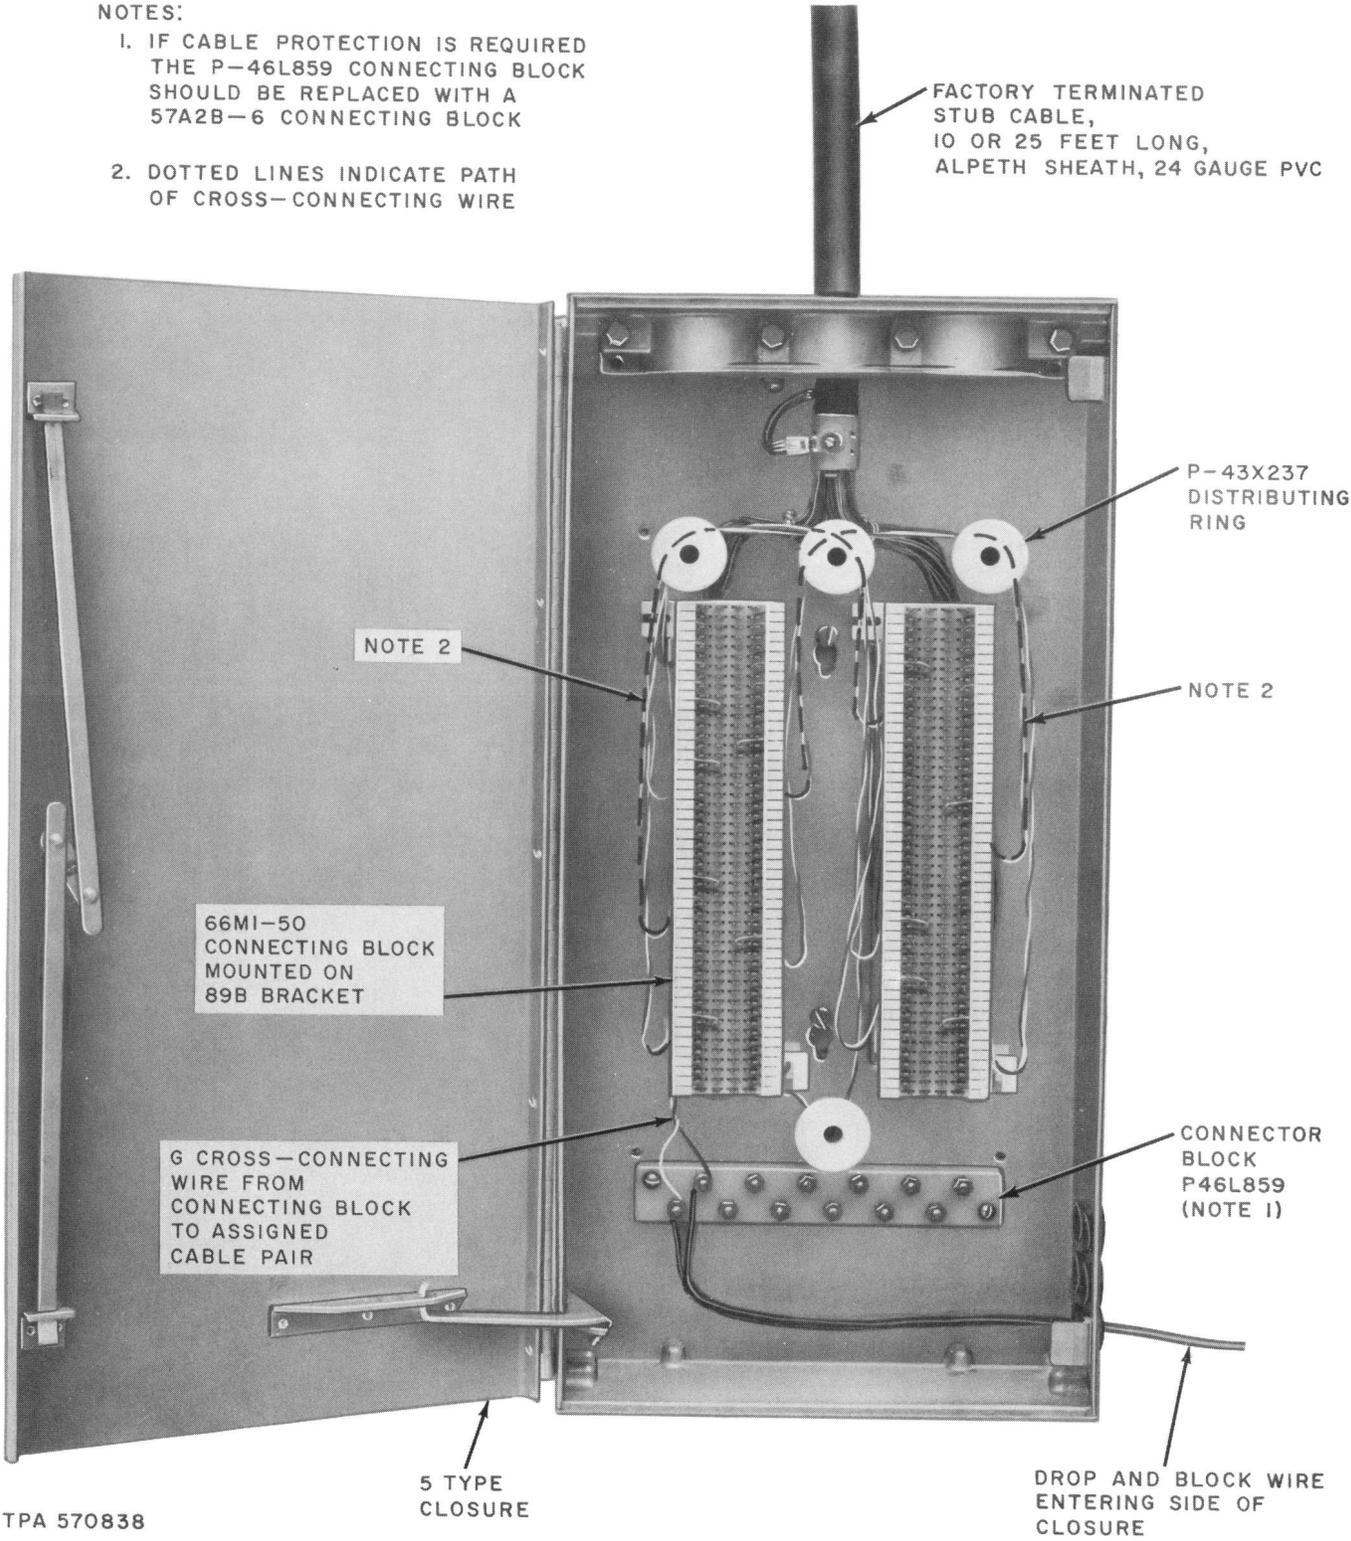

Fig. 9—Block or Drop Wire Terminated in 5-Type Closure
3.06 Terminate Block or Drop Wire as Follows (Fig. 9):